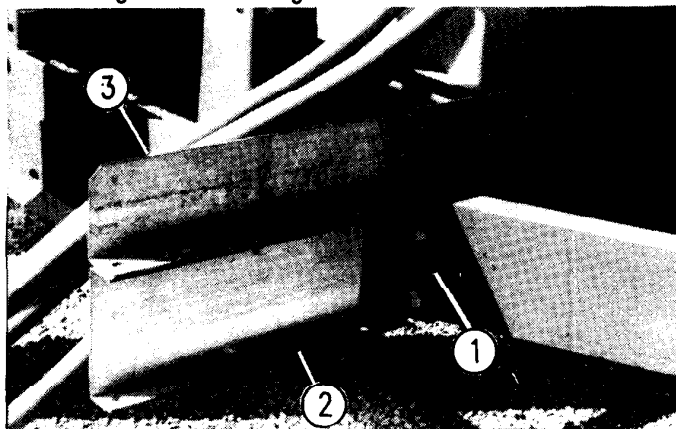

FIG. 1 - CONNECTING REAR ANCHOR CHANNEL AND REAR ANGLE TIE.
- A. If required, connect a platform attachment bracket (No. 1, Fig. 1, D61-0054) onto each side of the dryer as shown. Using the existing large bolts through the round set of bracket holes.
- B. Loosely connect the two rear anchor channels (No. 2, Fig. 1, D61-0055) to the platform, attach brackets using 3/8" x 1" bolts with washers.
- C. Position the rear angle tie (No. 3, Fig. 1, D61-0051) as shown and connect it onto the rear anchor channels using 5/16" x 1" carriage head bolts.